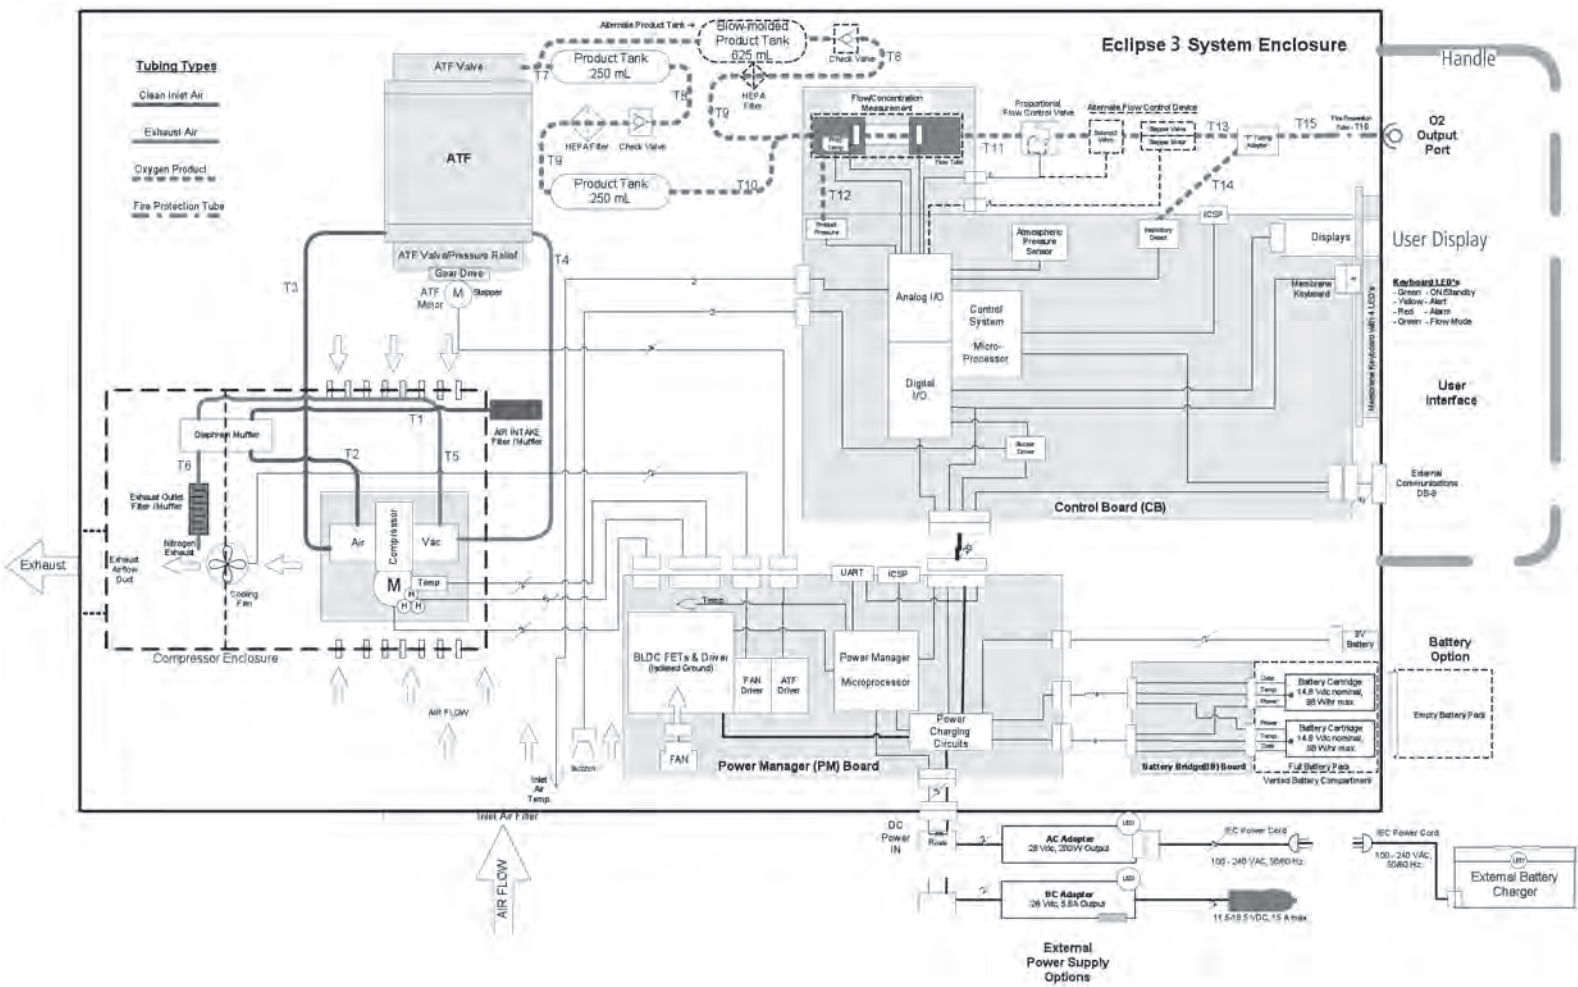

Figure 31: Eclipse 3 Oxygen System Simplified Block Diagram.
- Place the ATF in the Unit Case and remove the caps from the ATF Ports. Install the Braided Tubes into the ATF pressure and vacuum ports as shown on Figure 31. Do not use oil or grease if the tubing is difficult to install. Secure joints with Cable ties.
14. Use cable tie to secure the silicone tube to the braid tube to ensure that there is NO kinking on the bend as shown on Figure 31 on page 57. Hand-tighten the cable tie. Inspect the tubing to ensure the tubing is not kinked.